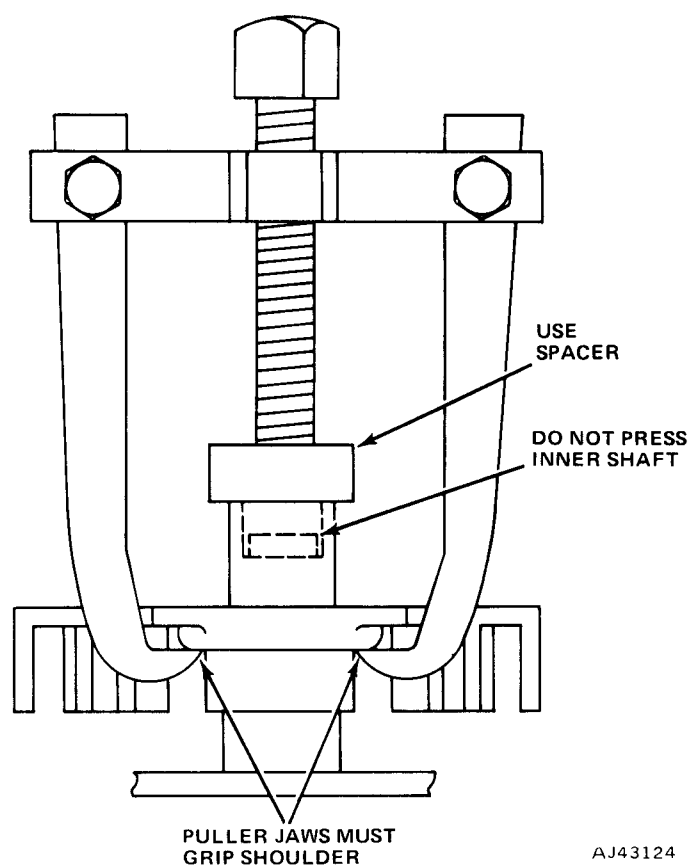

Fig. 3-58 Trigger Wheel Removal
- (3) Remove trigger wheel using a small gear puller (fig. 3-58). Be sure the puller jaws are gripping the inner shoulder of the trigger wheel or the trigger wheel may be damaged during removal. Use a thick flat washer or nut as a spacer. Do not press against the small center shaft.
- (4) Loosen sensor locking screw about three turns.